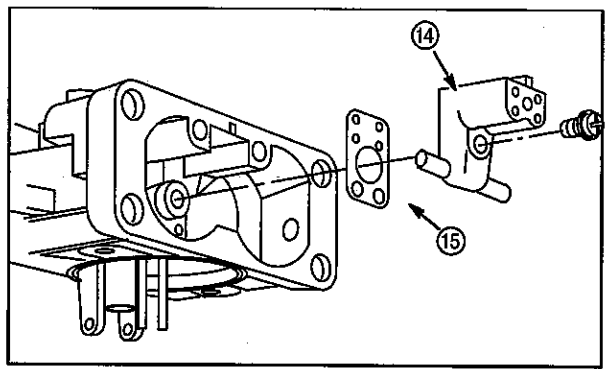

Fig. 121
- Remove nozzle body (14), Fig. 121. Discard gasket (15).